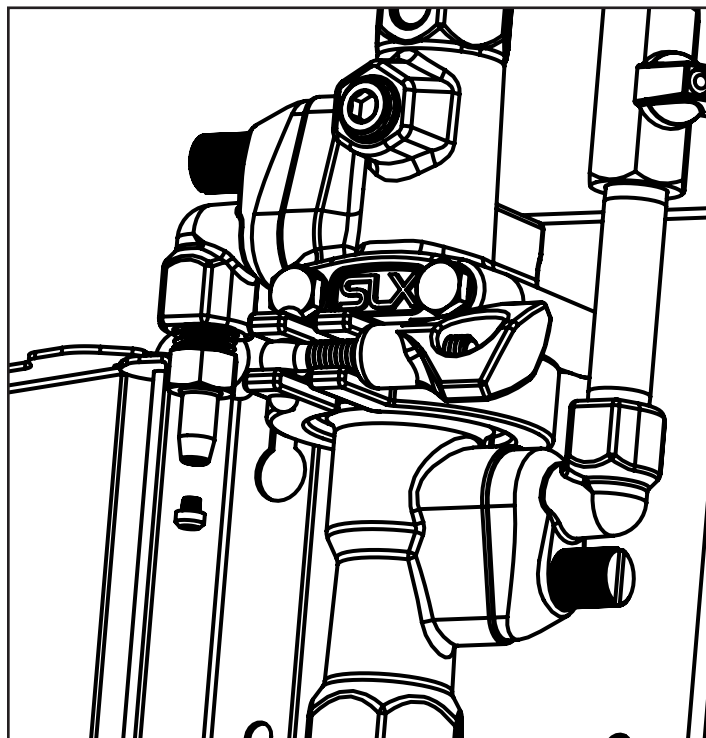

Fig. 5.1: Metering tip and hose barb
3. Thread metering tip into hose barb on chemical inlet to install. [Fig 5.1]